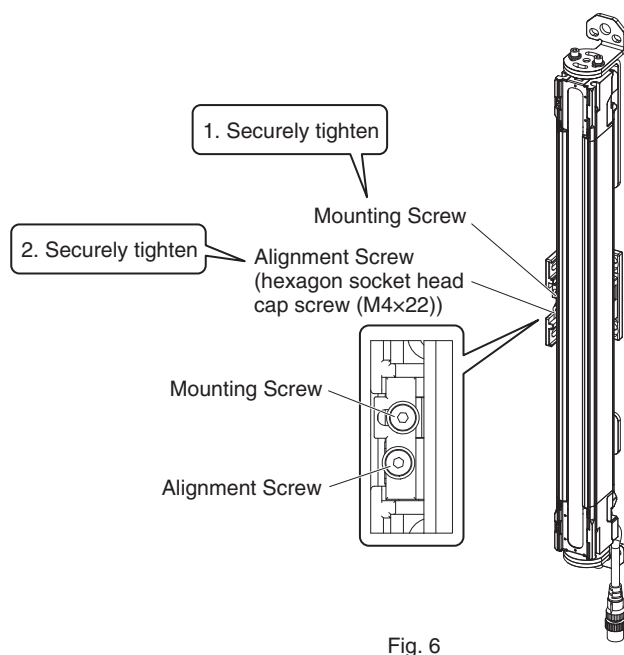

Fig. 6
5. Securely tighten the Mounting Screw to fix the Adjustable Side-Mount Bracket to the sensor housing. The recommended torque to tighten the Mounting Screw of the Adjustable Side-Mount Bracket is 3.0 N·m. Then loosen the Alignment Screw (hexagon socket head cap screw (M4×22)) of the Adjustable Side-Mount Bracket. (Fig. 6)